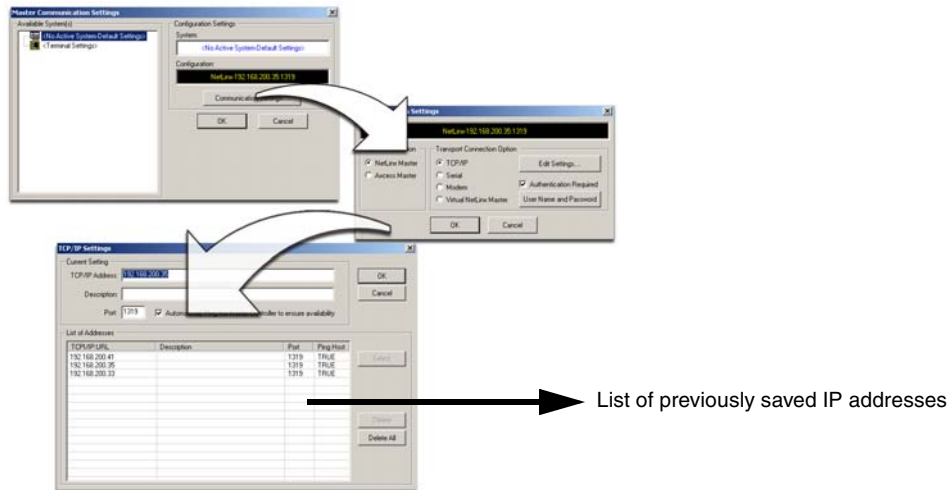

FIG. 31 Assigning Communication Settings and TCP/IP Settings
3. Select **Settings > Master Communication Settings** from the Main menu to open the Master Communication Settings dialog box (FIG. 31).
8. Click the **Edit Settings** button in the Communications Settings dialog box to open the TCP/IP Settings dialog box (FIG. 31).